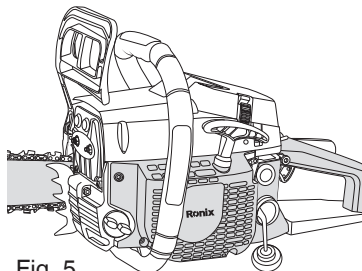

Fig. 5
1. Turn the unit on its side so that the fuel tank is facing up (Fig. 5).